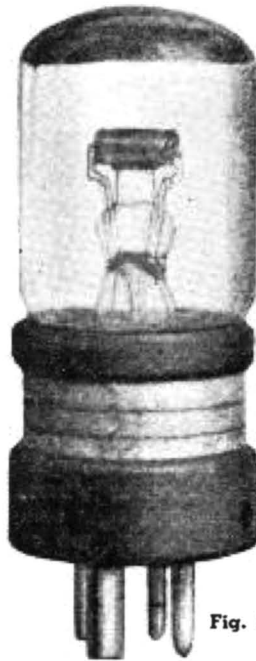

Fig. 244
Another general purpose tube, bearing a closer resemblance to the EVE173, was the RE16 shown in Fig. 244. This was used chiefly as a detector for c.w. work.³¹⁵ The extent of its use may be gauged by the fact that in the summer of 1918 *Telefunken* was producing them at the rate of 1000 per day.³¹³ It had a filament which took 0.5-0.6 ampere at 4.0 volts. The usual anode voltage was 65 and the mutual conductance about 200 micromhos, the internal resistance being about 24,000 ohms. This tube had about the same
- Fig. 244. RE16 tube. The top is painted red. Reproduced from Nespers’ “Der Radio Amateur”—1924.